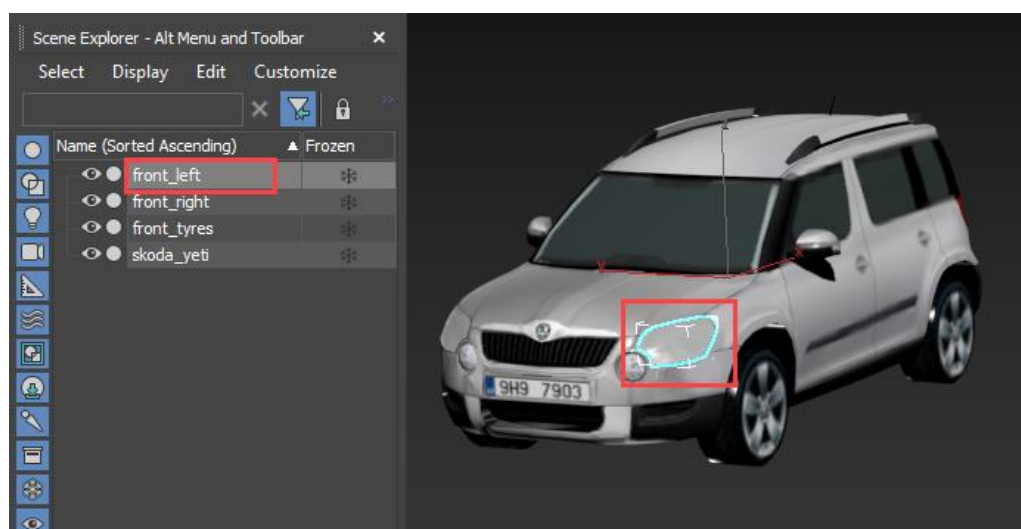

Figure 30.7. Select element
1. In the **Scene Explorer** select the element to which you would like to attach another element. Selected element will be highlighted in the main window, see Figure 30.7.